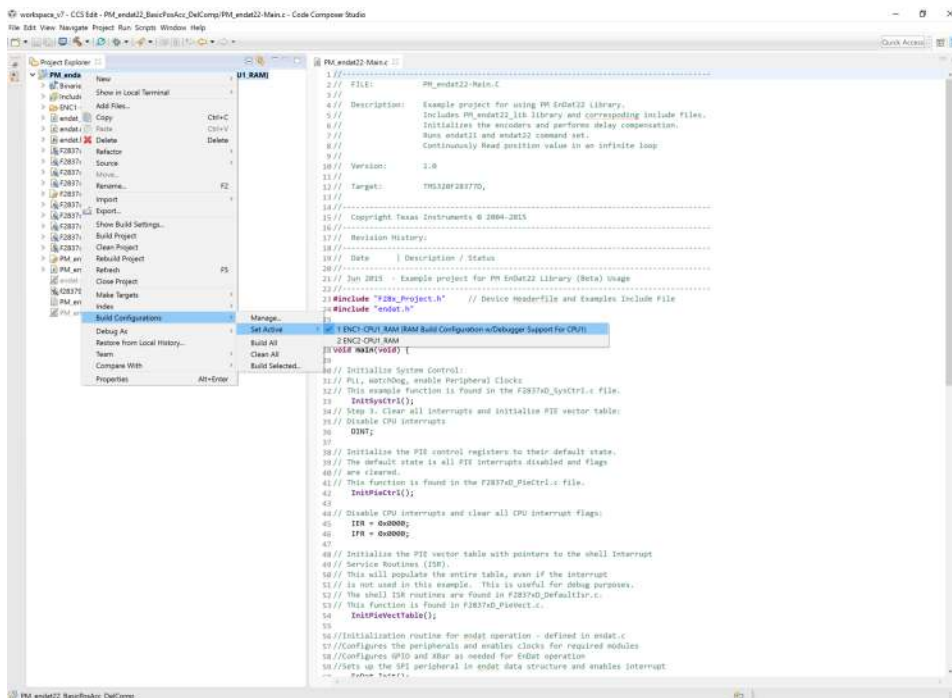

Figure 8. Selecting F2837x_RAM Configuration
- The project can be configured to create code and run in either Flash or RAM. Either of the two can be selected, however, RAM configuration is used most of the time for lab experiments and Flash configuration for production. As shown in Figure 8, right-click on an individual project and select *Active Build Configuration → CPU1_RAM configuration*.